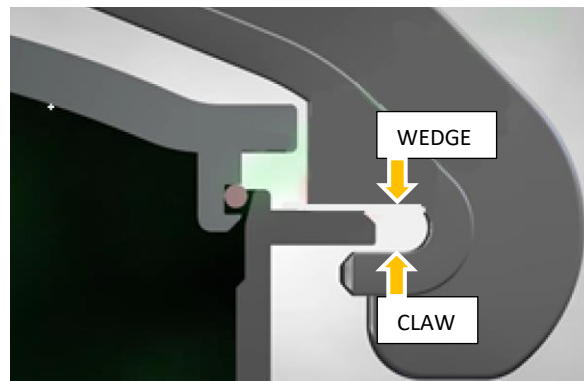

Figure 2 - Strongback in Neutral Position
- i. Note that the strongback is locked in relation to the cover by means of a spring-loaded T-handle locking pin. This is called the **open-lock-position**. With one hand pushing the cover assembly down on the Strongback' main handle, pull the T-handle up, and turn the strongback clockwise. Release the T-handle and continue to turn until the spring-loaded pin of the T-handle releases and fully engages the corresponding hole in the nozzle flange. This is called the **closed-lock-position**. If the strongback does not freely move from one position to another it is due to contact between the surfaces of the strongback arms and the nozzle flange. To eliminate this contact, turn the ram so that the nozzle flange is equally positioned between the strongback "claws" and "wedges" (See figure 2).
- v. Lift the T-handle and rotate strongback counter-clockwise. Release the T-handle and continue to turn until the spring-loaded pin of the T-handle releases and fully engages the corresponding hole in the nozzle flange. The strongback is now in the **open-lock-position**. If the strongback does not freely move from one position to another it is due to contact between the surfaces of the strongback arms and the nozzle flange. To eliminate this contact, turn the ram so that the nozzle flange is equally positioned between the strongback "claws" and "wedges" (See figure 2). Note: The "claws" bear up against the bottom side of the nozzle flange when closing the cover assembly. The "wedges" bear up against the upper side of the nozzle flange when opening the cover assembly.